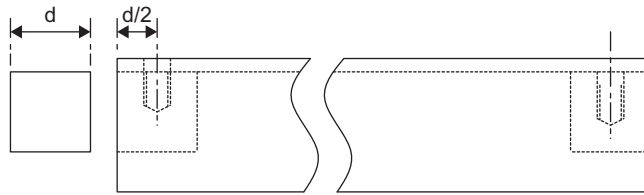

Figure 2.44
- Two of your channels will have pillars inside them. Decide which these channels are, and drill M5 clearance holes at each end. See Figure 2.44.